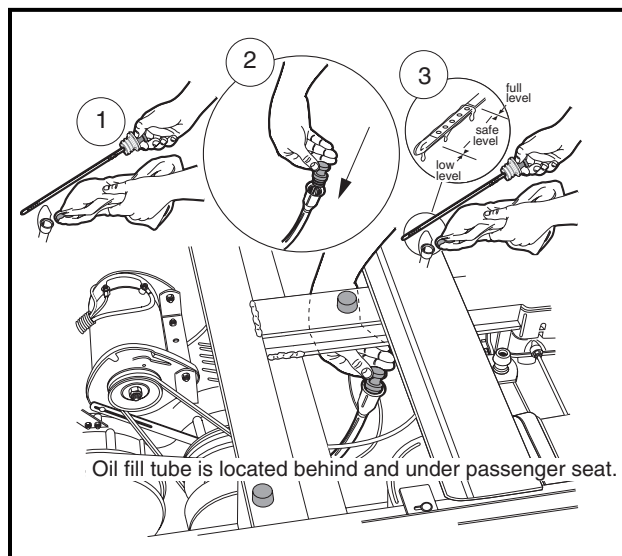
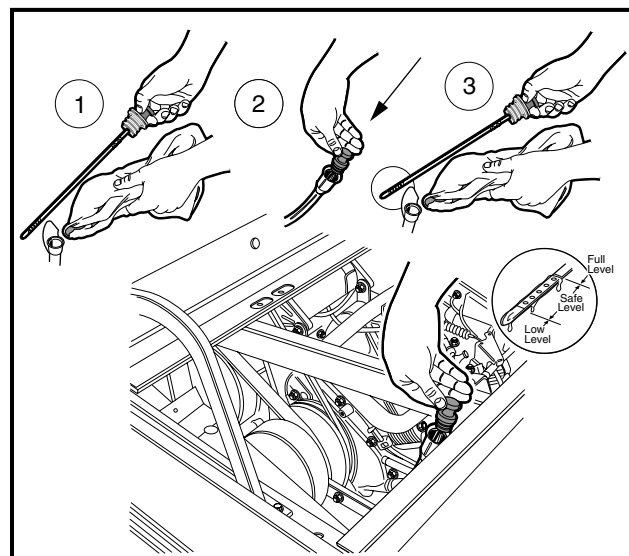

Figure 10-3 Pioneer 1200 Oil Level Check
Figure 10-4 Pioneer 1200SE Oil Level Check
1. Remove the oil level dipstick from the oil filler tube and wipe oil from the stick (**Figure 10-3, Page 10-4** or **Figure 10-4, Page 10-4**). See following CAUTION.